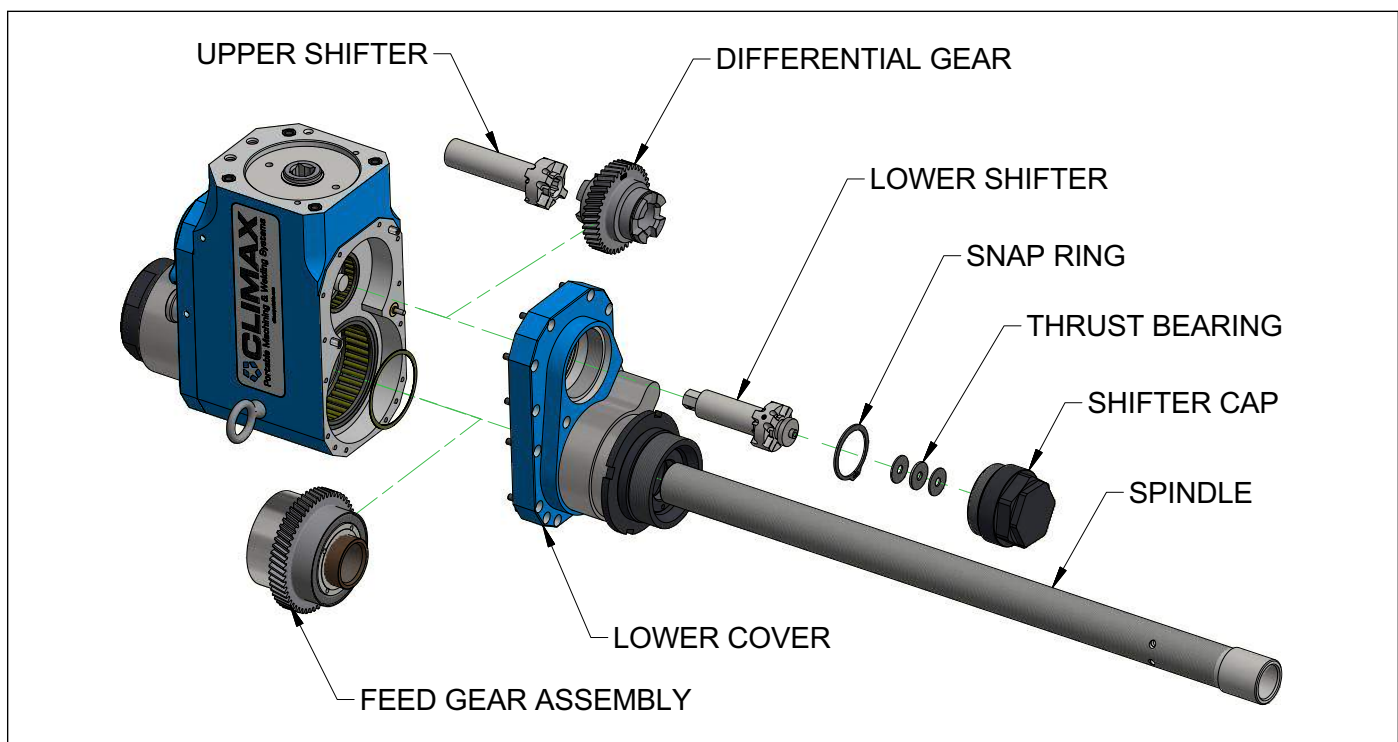
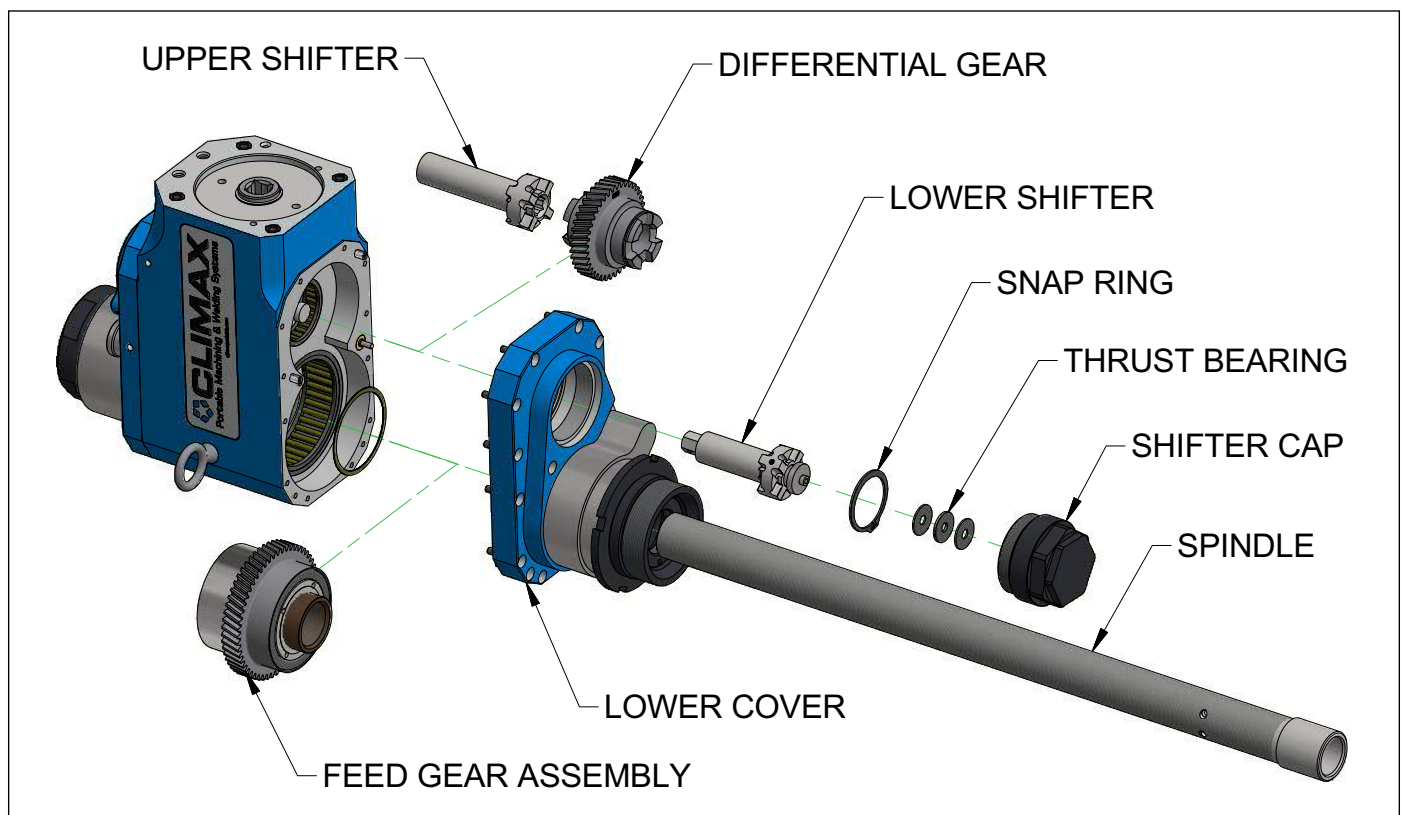

FIGURE 5-4. GEARBOX ASSEMBLY
FIGURE 5-6. GEARBOX REASSEMBLY
2. Separate the lower housing cover and spindle from the gearbox until the upper end of the spindle is free of the main gearbox. (Figure 5-4).
3. You now have access to the differential gear set and the spindle (Figure 5-4). To replace the differential gear set, refer to Section 5.4.4 through Section 5.4.8. To replace the spindle, refer to Section 5.4.9.
Refer to Figure 5-4 or Figure 5-6 while you do the tasks in Sections 5.4.4 through 5.4.9.
Refer to Figure 5-4 while you do the following: